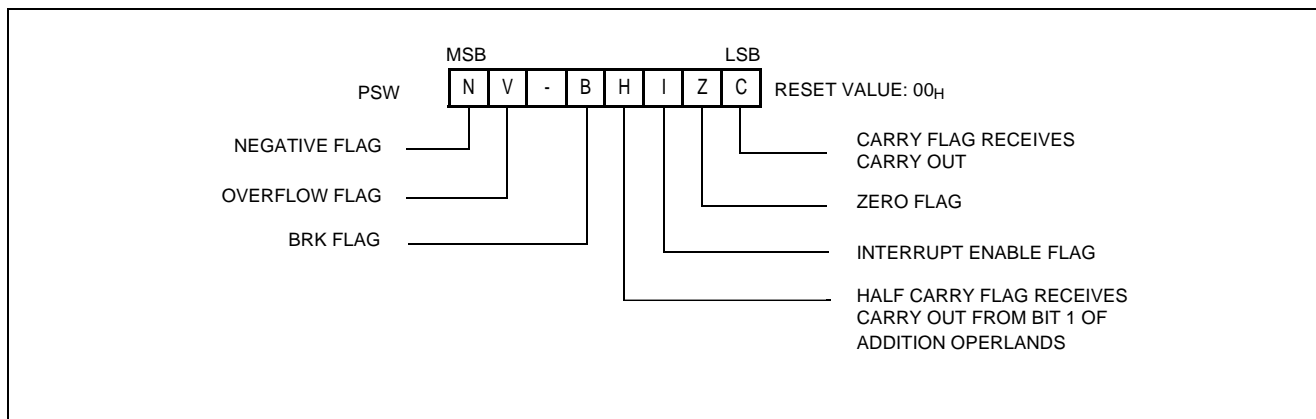

Figure 8-3 PSW (Program Status Word) Register
**Program Status Word:** The Program Status Word (PSW) contains several bits that reflect the current state of the CPU. The PSW is described in Figure 8-3 . It contains the Negative flag, the Overflow flag, the Break flag the Half Carry (for BCD operation), the Interrupt enable flag, the Zero flag, and the Carry flag.